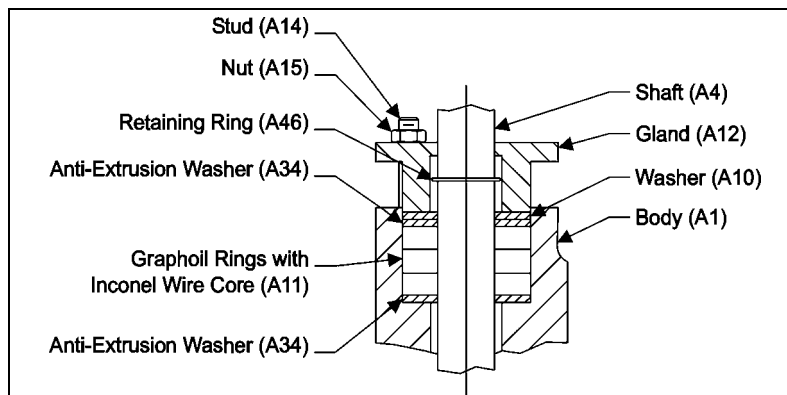

Figure 7 — Packing Option (G2)
- Place the new packing and anti-extrusion washers in the body, one ring at a time, in the configuration shown in Figure 7.